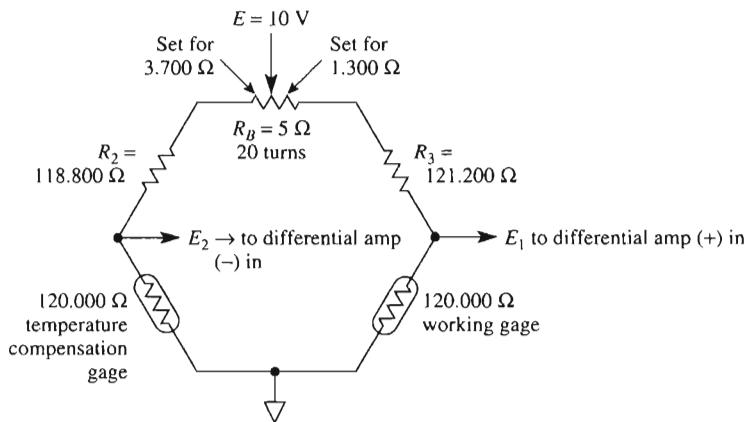

FIGURE 8-14 Balance pot R_B is adjusted in an attempt to make $E_1 - E_2 = 0 \text{ V}$.
Suppose that you had a working gage and temperature-compensation gage in Fig. 8-14 that are equal to within $1 \text{ m}\Omega$. To complete the bridge, you install two 1%, 120- Ω resistors. One is high by 1% at 121.200 Ω and one is low by 1% at 118.800 Ω . They must be equalized to balance the bridge. To do so, a 5- Ω , 20-turn balancing pot is installed, as shown in Fig. 8-14. Theoretically, the pot should be set as shown to equalize resistances in the top branches of the bridge at 122.500 Ω .
Further assume that an instrumentation amplifier with a gain of 1000 is connected to the bridge of Fig. 8-14. From Example 8-10, the *output* of the instrumentation amplifier (IA) will be about 22 mV per milliohm of unbalance. This means that the 5- Ω pot must be adjusted to within 1 m Ω of the values shown, so that $E_1 - E_2$ and consequently V_o of the IA will equal 0 V \pm 22 mV.